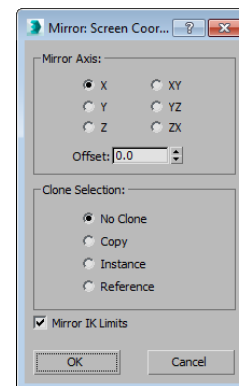

Figure 3-50 The **Mirror: Screen Coordinates** dialog box
2. Choose the **Mirror** tool from the **Main Toolbar**; the **Mirror: Screen Coordinates** dialog box is displayed, as shown in Figure 3-50.